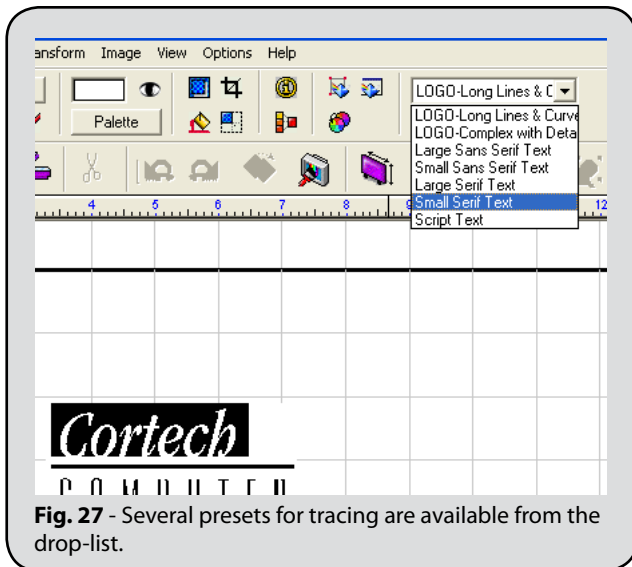

Fig. 27 - Several presets for tracing are available from the drop-list.
4. From the **Save Settings** drop-list, choose the “Small Serif Text” item (Fig. 27).